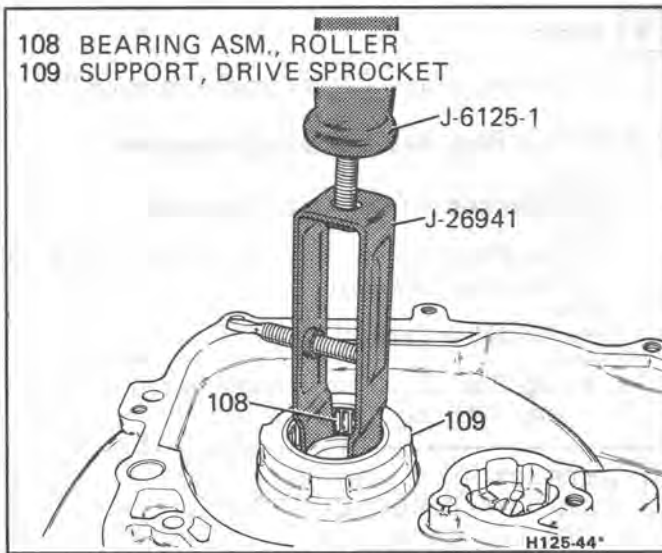

Figure 43 Removing Bearing
**↔ Remove or Disconnect (Figure 43)**